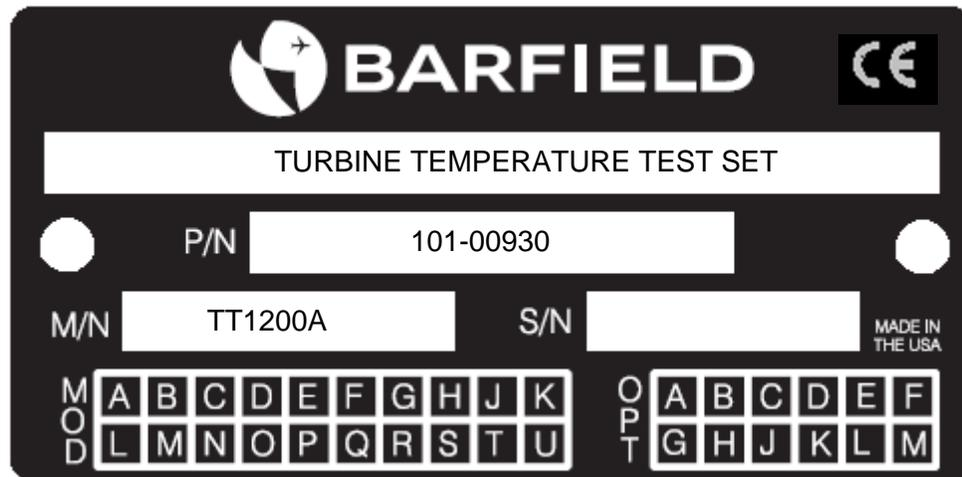

Figure 1 IDENTIFICATION LABEL
- A. The identification label, (Figure 1), located on the front of the Test Set, provides the following information: